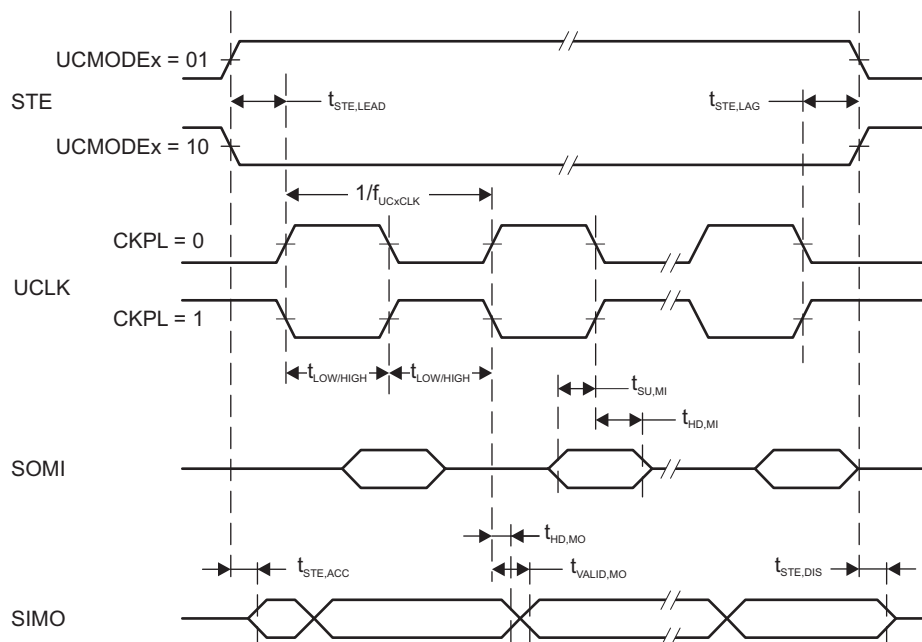
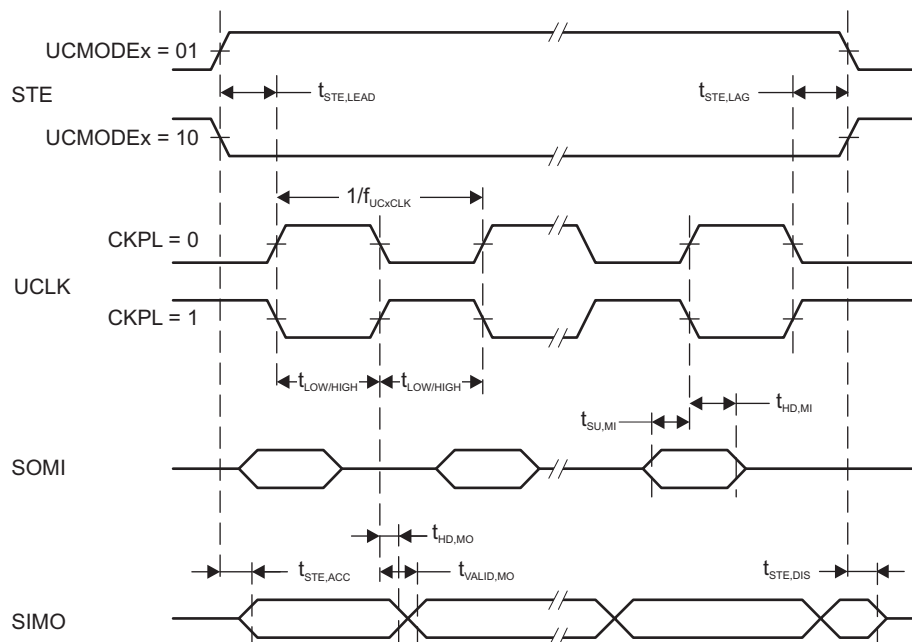

Figure 5-14. SPI Master Mode, CKPH = 0
Figure 5-15. SPI Master Mode, CKPH = 1
- (2) Specifies the time to drive the next valid data to the SIMO output after the output changing UCLK clock edge. See the timing diagrams in Figure 5-14 and Figure 5-15.
- (3) Specifies how long data on the SIMO output is valid after the output changing UCLK clock edge. Negative values indicate that the data on the SIMO output can become invalid before the output changing clock edge observed on UCLK. See the timing diagrams in Figure 5-14 and Figure 5-15.